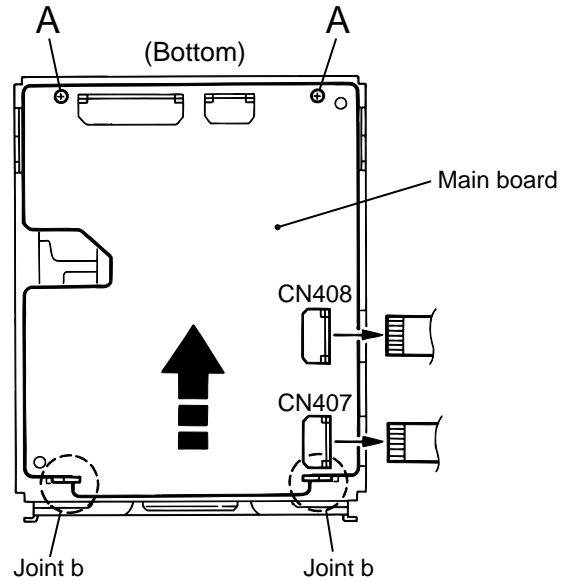

Fig.1
■Removing the main board (See Fig.1 and 2)